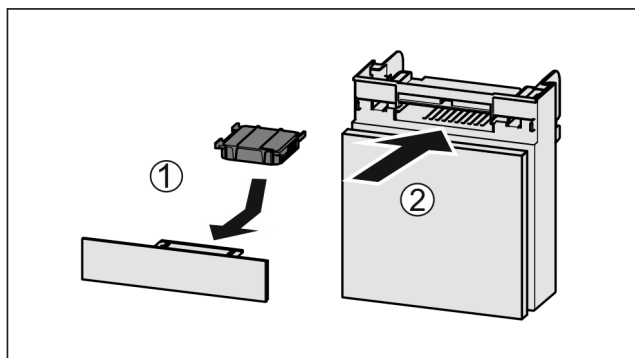

Fig. 45
- Insert the carbon filter as shown in the diagram Fig. 45 (1).
- Push the compartment in Fig. 45 (2).